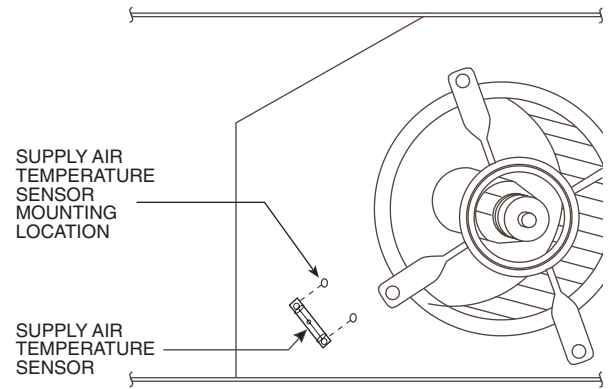

Fig. 42 — Supply Air Sensor Placement
12. Mount the supply air temperature sensor to the lower left portion of the indoor blower housing with the two (2) screws provided (see Fig. 42). Connect the violet and pink wires to the corresponding connections on the supply air temperature sensor. Replace the indoor fan motor access panel.